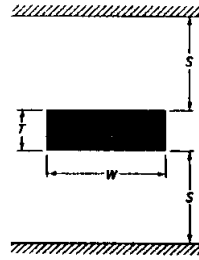

Figure E-7 Cross section of triplate stripline
(7) Triplate stripline (Figure E-7) has shape factor